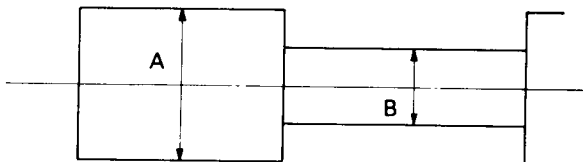

Fig. 15 Envelope Output and Output Level Difference
1. Make recordings on T-120 and T-160 tapes, and make sure the playback output envelope meets the specification as shown in Fig. 15.
2. Playback a self recorded tape (recording made on this unit), (with a T-120) the video envelope should meet the specification as shown in Fig. 15.